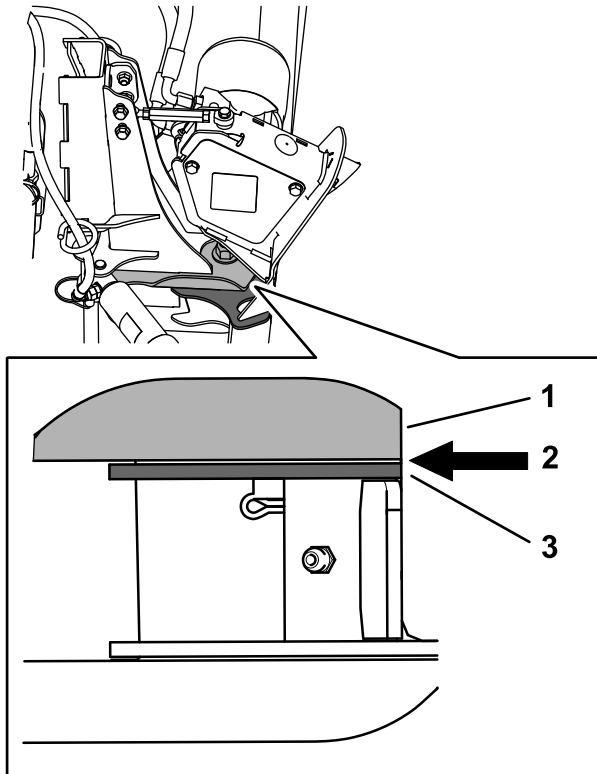

**Figure 9**
- A. Loosen the fasteners on the channel, slide the channel up or down, and tighten the fasteners (**Figure 9**).
B. Loosen the hex nuts to adjust the length of the turnbuckle as needed (Figure 9). As you adjust the turnbuckle, ensure that there is enough space between the upper plate and upper channel that you can slide a sheet of paper between them (Figure 10).